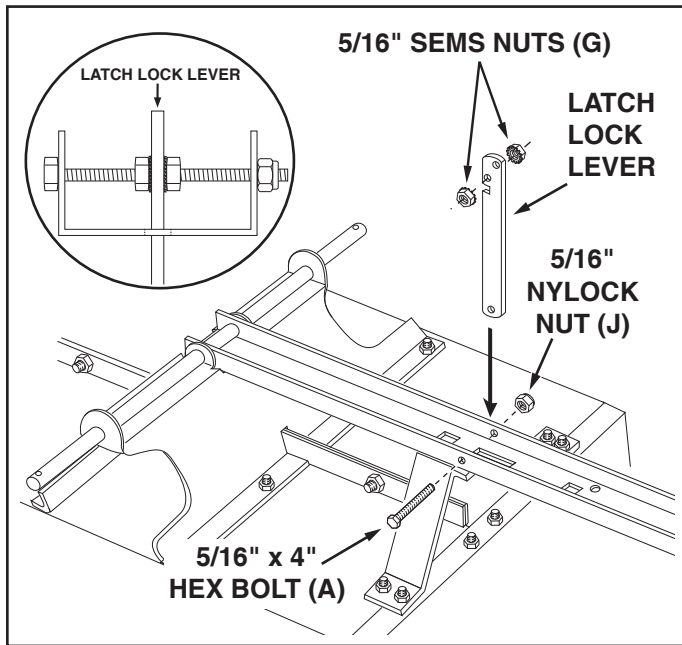

FIGURE 8
17. Place the latch lock lever through the slot in the tongue. Insert the 5/16" x 4" hex bolt (A) through one side of the tongue. Assemble a (SEMS) hex nut (G), the lever and another (SEMS) hex nut (G) onto the hex bolt. Insert the hex bolt through the opposite side of the tongue and assemble a 5/16" nylock nut (J) onto the end of the hex bolt. Tighten so that the hex bolt can still rotate freely. Tighten the two (SEMS) hex nuts (G) against each side of the latch lock lever so that it is centered in the slot. See figure 8.